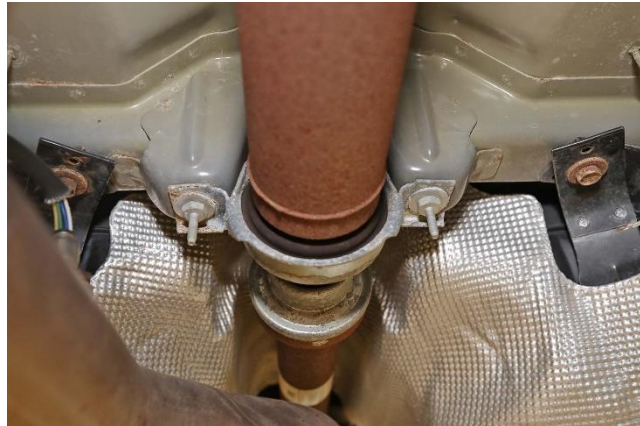

Figure 32 – Center Bearing
- 61. Mark the center bearings orientation. Remove the center bearing fasteners, and the propeller shaft from the vehicle (Figure 32).